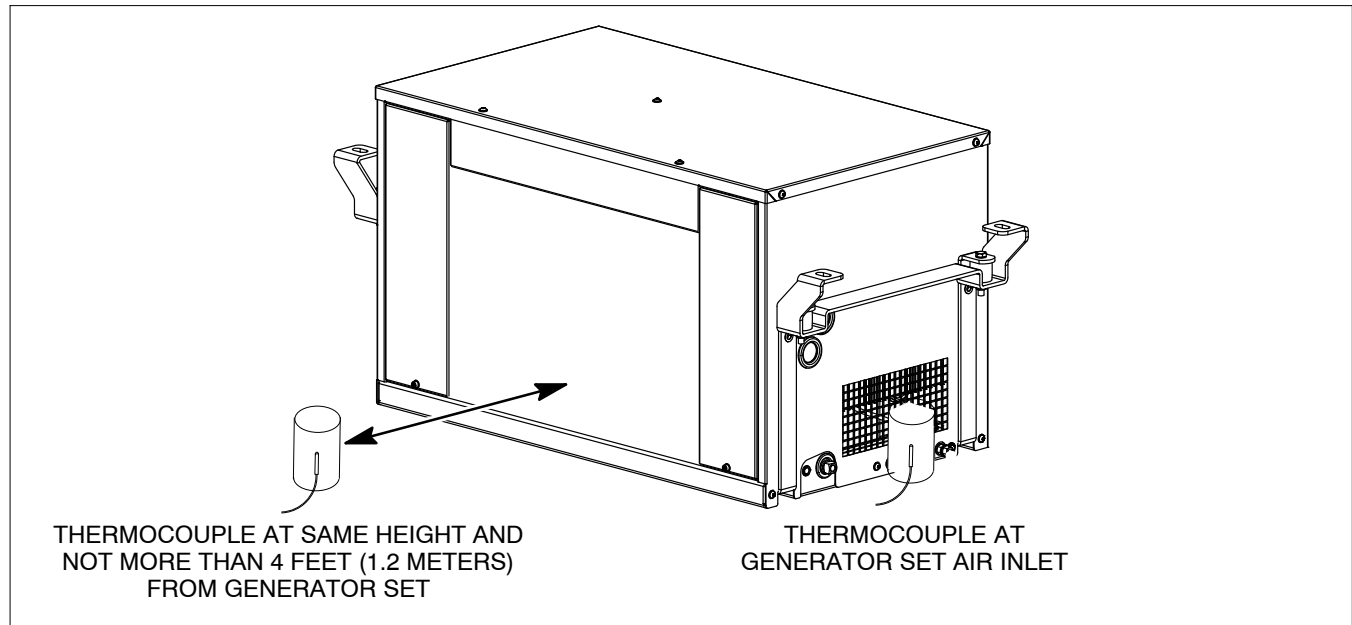

FIGURE 6-1. THERMOCOUPLE LOCATIONS
2. Measure temperatures with shielded thermocouples not heavier than No. 24 AWG (0.25 mm2). A 2 inch diameter white PVC pipe 6 inches long is a good thermocouple shield. See Figure 6-1.